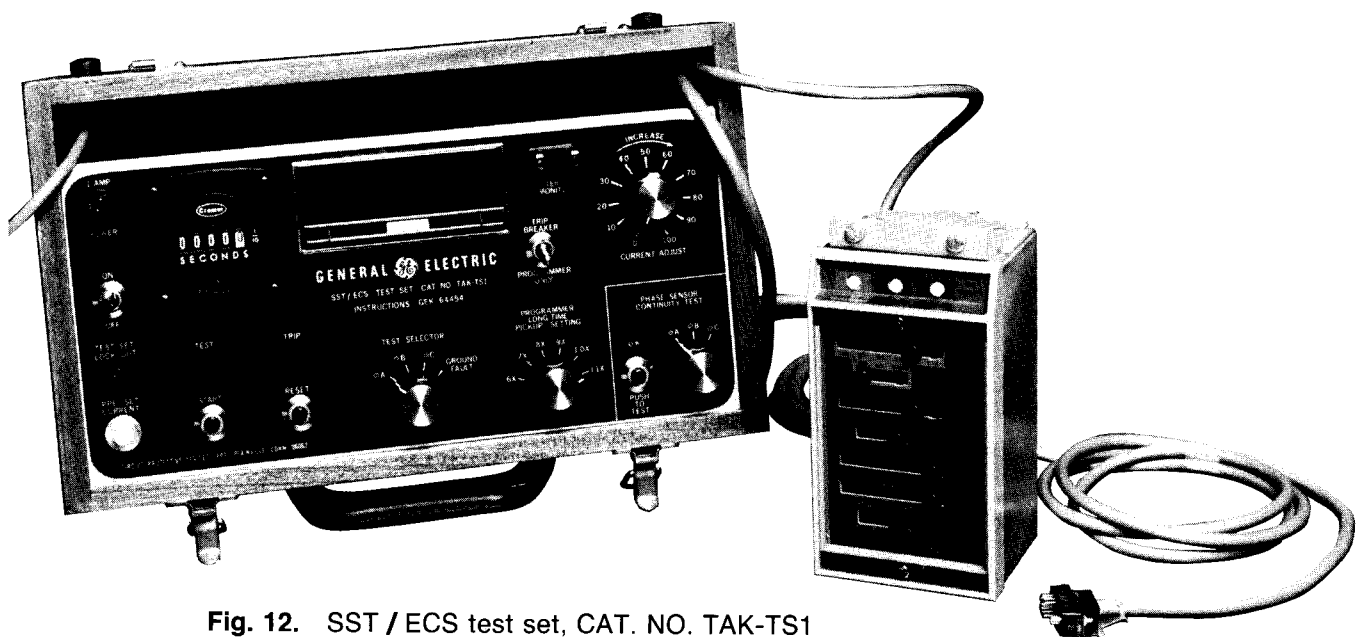

Fig. 12. SST / ECS test set, CAT. NO. TAK-TS1
2. Test the components of the SST system using portable Test Set type TAK-TS1 (Fig. 12). The applicable test procedures are detailed in Instruction Book GEK-64454 and are summarized below.